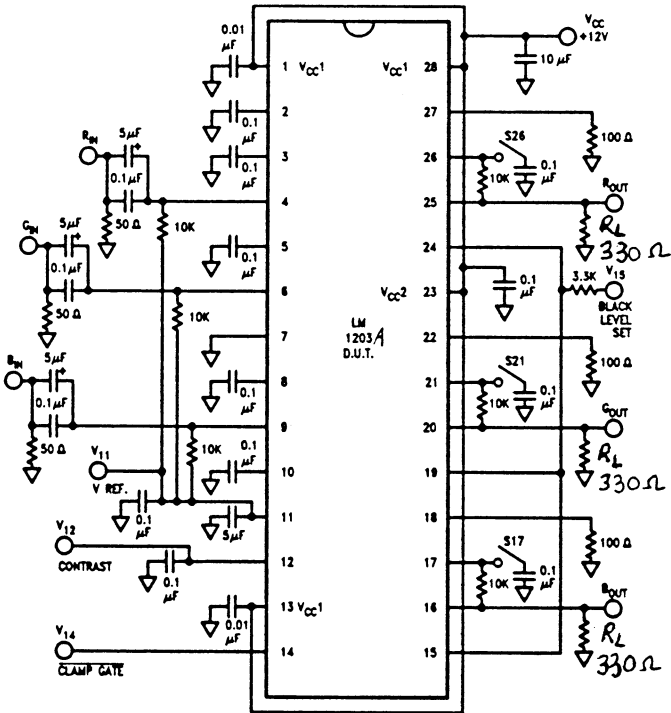

FIGURE 2. LM 1203 Test Circuit
**DC Electrical Characteristics** See Test Circuit ( Figure 2 ),  $T_A = 25$  °C;  $V_{CC1} = V_{CC2} = 12V$ .
**AC Electrical Characteristics** See Test Circuit ( Figure 2 ),  $T_A = 25\text{ }^\circ\text{C}$ ;  $V_{CC1} = V_{CC2} = 12\text{V}$ .
Note 7: The supply current specified is the quiescent current for  $V_{cc1}$  and  $V_{cc2}$  with  $R_L = \infty$ , see Fig.2 's test circuit. The supply current for  $V_{cc2}$  ( pin 23 ) also depends on the output load. With video output at 4V DC, the additional current through  $V_{cc2}$  is 36 mA for Fig 2's test circuit.